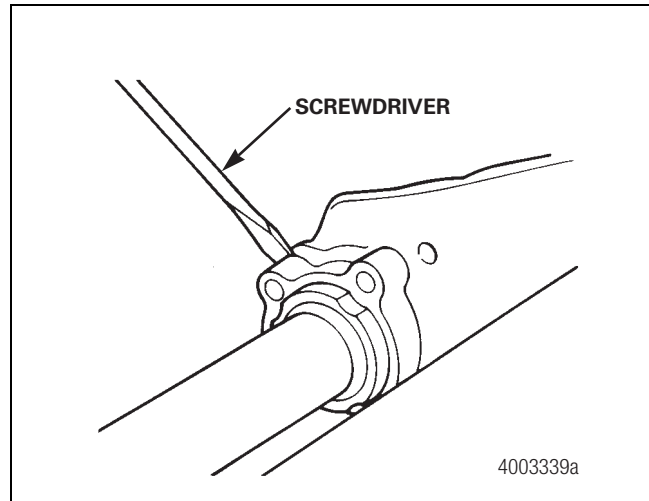

Figure 11.58
3. Pry the bushing housing out of the spider retainer hole. Figure 11.58.